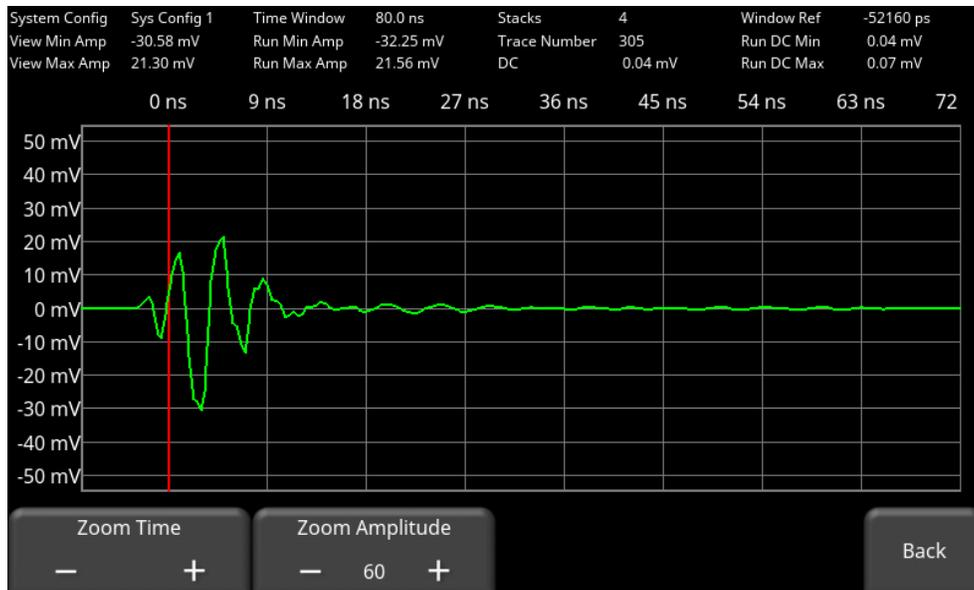

Figure 5-34: Zooming options (PRO Receiver shown)
- **Zoom** – Pressing this button changes the menu at the bottom of the screen (Figure 5-34) allowing the user to change the time window (Zoom Time, the horizontal axis) and the amplitude (Zoom Amplitude, the vertical axis).